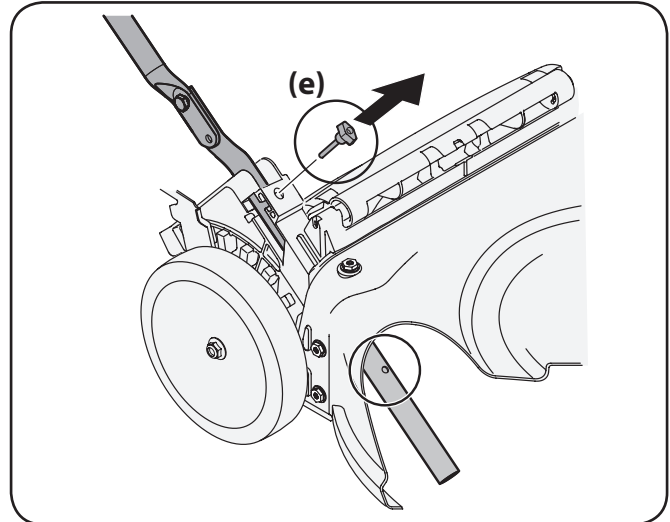
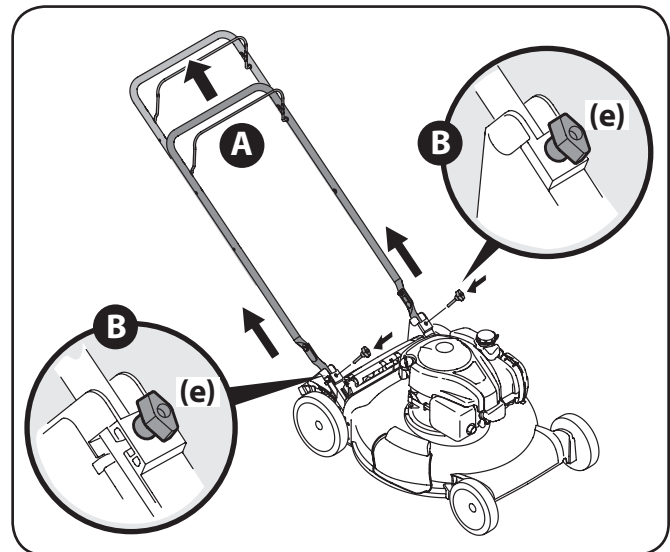

Figure 3-3
Figure 3-4
4. Remove the T-bolts (e) from the handle brackets as shown in Figure 3-3.
- a. Pull upward on the handle until holes in lower handle (shown in Figure 3-3 deck cutaway) line up with holes in handle bracket. See Figure 3-4.
- b. Insert the T-bolts (e) removed in Step 4 through the handle brackets and lower handle and tighten securely to secure the handle in place. See Figure 3-4.